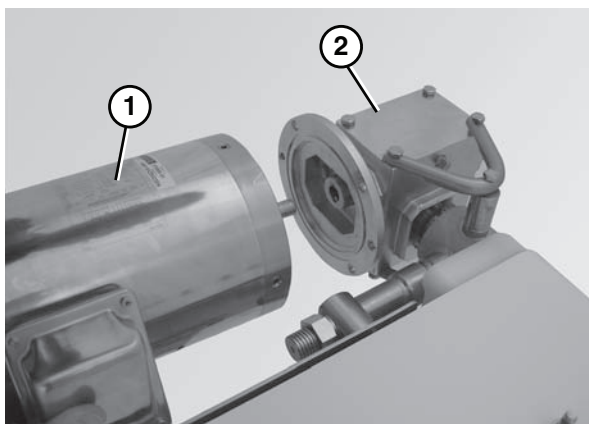

Figure 45
6. Detach the motor (Figure 45, item 1) from the gear reducer (Figure 45, item 2).